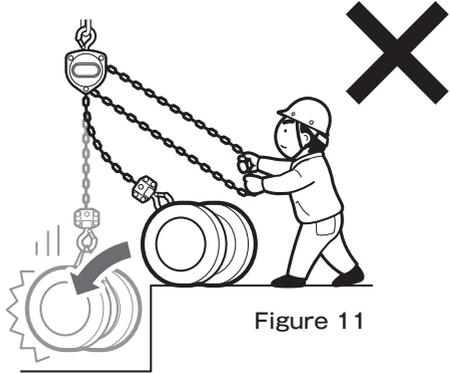
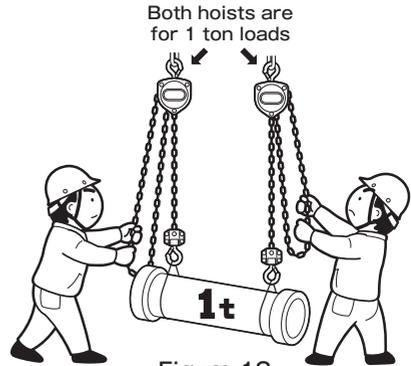

Figure 11
Figure 12
- (6) Never operate the hoist in such a manner as to let the load drop even a slight distance. (Figure 11)
- (7) Never cut, splice, or weld the load chain.
- (8) Do not operate the chain hoist if the load cannot be suspended from the center portion of the hook.
- (9) Do not use this equipment as a sling suspension device. Also, do not use with the load chain wrapped around the load. (Figure 12)
- (10) Never apply loads exceeding the rated load on a single unit of this equipment when performing two-hoist lifting.